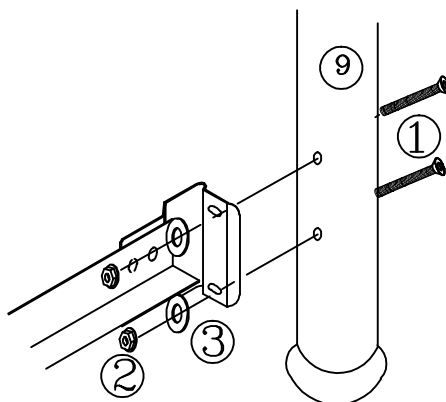

FIGURE 4
- Place 2 screws (1) through holes located in post (9). (See Figure 4)
- Place a flat washer (3) first and then a nut (2) on each screw. Hand-tighten, DO NOT TIGHTEN screws all the way.
- Tighten all screws securely using the Allen wrench (5) and open wrench (11).